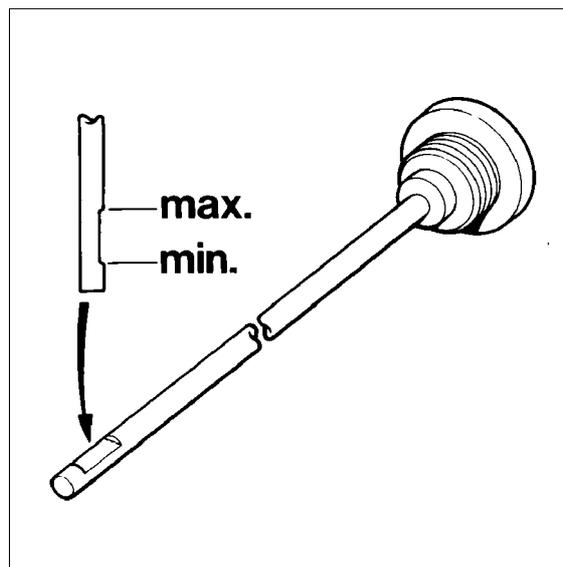

Fig. 7 Oil dipstick markings
Check oil level daily prior to putting compressor into operation. Check using oil dipstick. Wipe off dip stick with lint-free cloth, note that the oil level must be between minimum and maximum dipstick notches (see Fig. 7).
- Oil level is checked with oil dipstick, see Fig. 7 - oil level is correct if at upper mark.